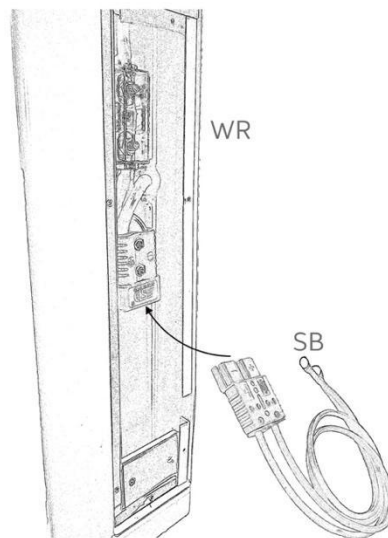

Fig. 6
1. Connect the Ring Terminals of your Anderson SB175 to Ring Terminal Cable (SB) to your power system.
3. Connect Anderson SB175 end of Anderson SB175 to Ring Terminal Cable (SB) to Anderson SB175 cable inside of the RHINO, as seen in Figure 6.